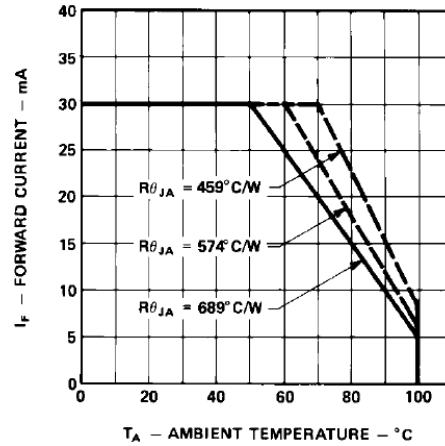

Figure 4. Maximum forward dc current vs. ambient temperature. Derating based on $T_{J\text{ Max.}} = 110^\circ\text{C}$.
2. Derate linearly as shown in Figure 4.